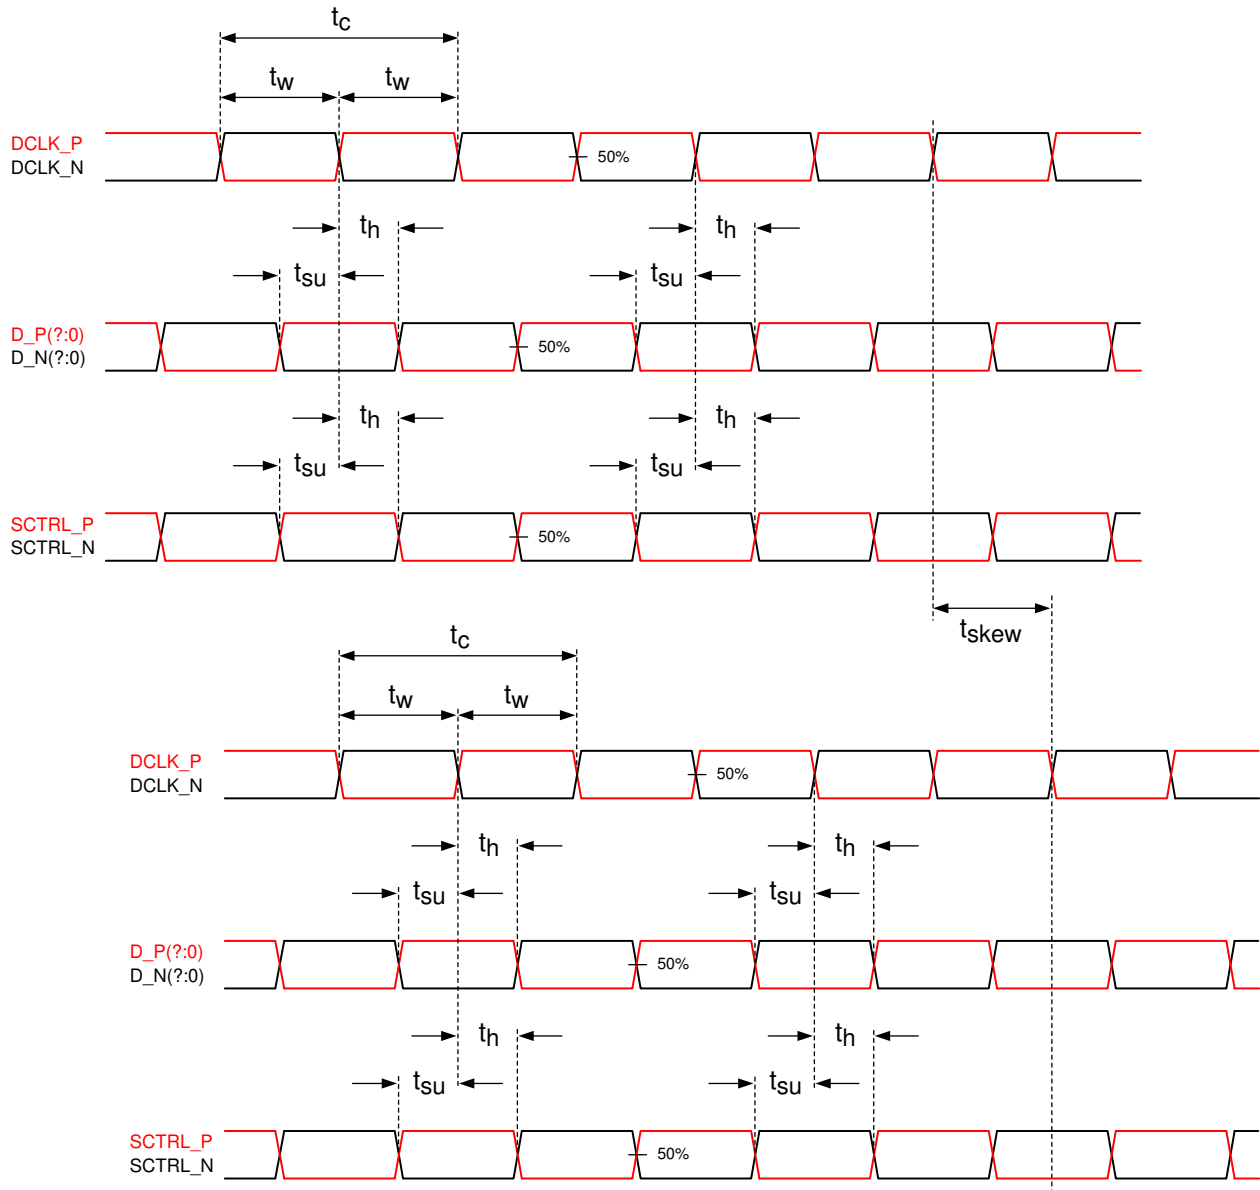

图 6-6. Timing Requirements
- (9) See LVDS Timing Requirements in Timing Requirements and Figure 6-6.